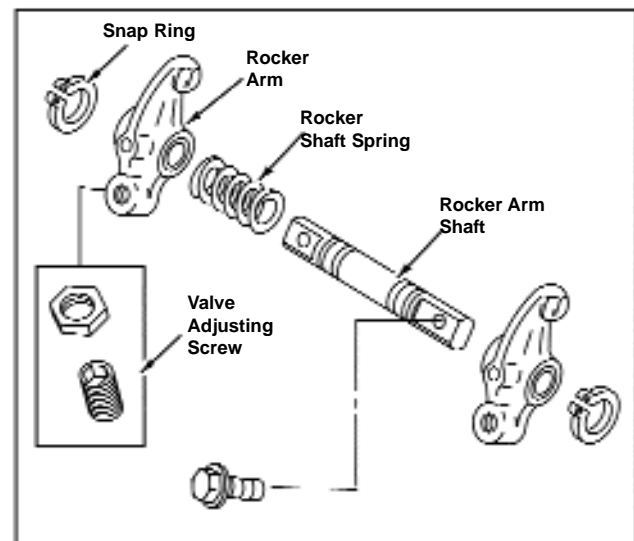

Figure 89 - Disassembling Rocker Arm Shaft
2. Disassemble rocker assembly by using external snap ring pliers to remove either snap ring, Figure 89.